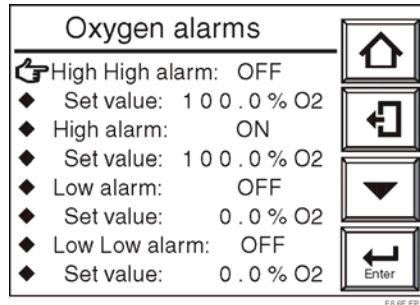

Figure 8-6 Oxygen Alarms Display
6. Select the Set points in the Alarms setup display screen. The Oxygen alarms display appears, as shown in Figure 8-6.